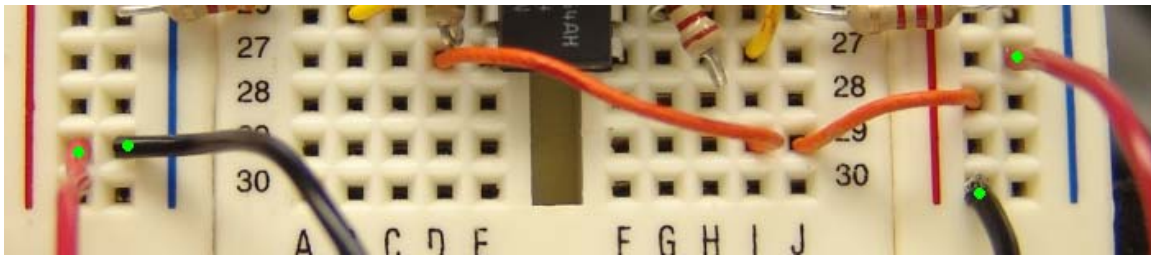

Figure 22. Positive and negative terminals of the battery (green dots).
18. Wire up the batteries as shown in figure 22. **CAUTION: We assume that the red wire is the positive terminal of the battery and the black wire is the negative terminal. Be extremely careful in this step.** You are done!